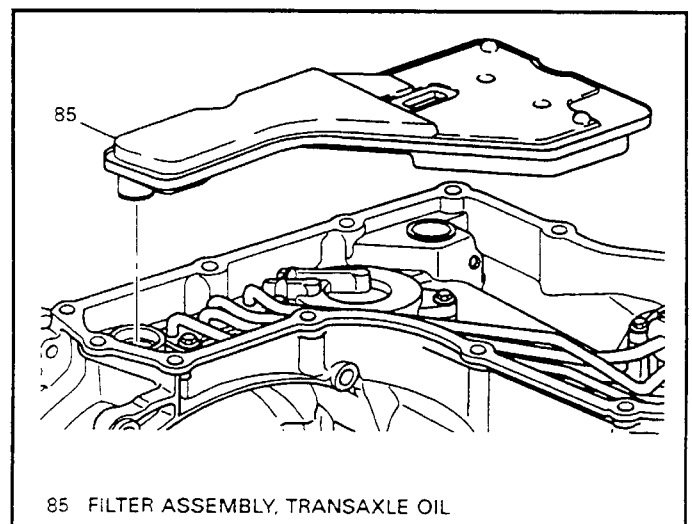

Figure 197
2. Install a new oil filter assembly into filter seal as shown in Figure 197, twisting the oil filter slightly during installation.